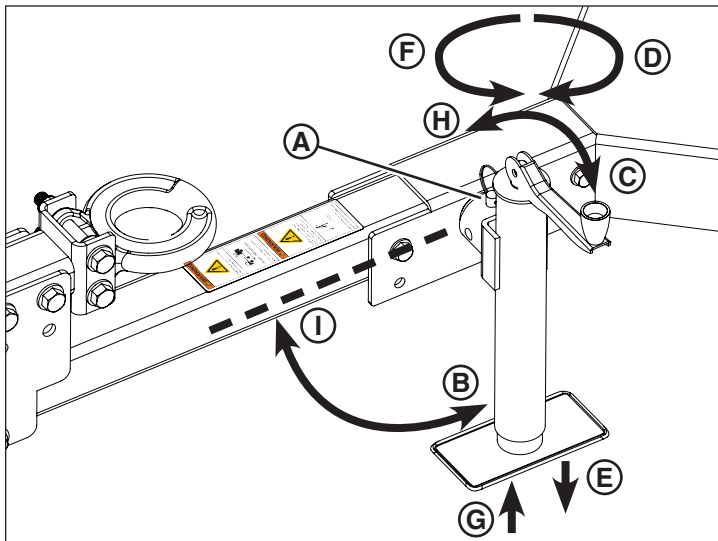

Figure 6
1. Remove the jack locking pin (A, Figure 6), rotate the tongue jack into the operating position (B), and install the jack locking pin fully through the top and bottom holes in the jack and tongue.
2. Unfold the crank handle (C, Figure 6).
- Turn the jack handle clockwise (D, Figure 6) to lower the jack foot (E) and raise the front of the light tower trailer.
- Turn the jack handle counter-clockwise (F, Figure 6) to raise the jack foot (G) and lower the front of the light tower trailer.
4. Fold the crank handle (H, Figure 6).
5. Remove the jack locking pin (A, Figure 6), rotate the jack into the transport position (I), and install the jack locking pin fully through the top and bottom holes in the jack and trailer tongue.